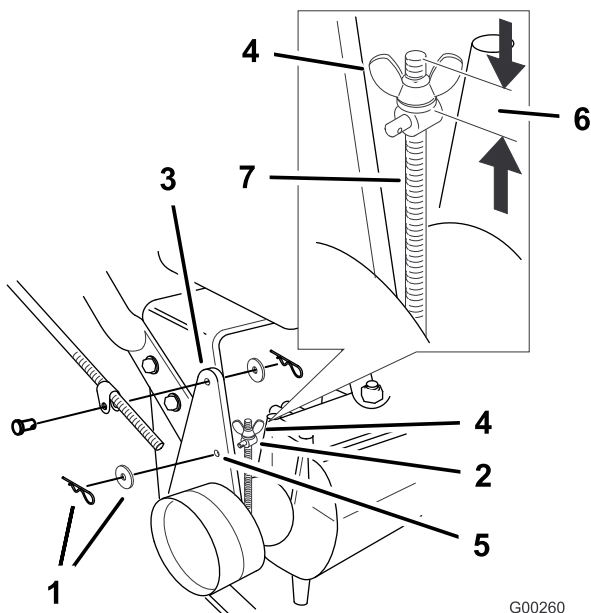

Figure 41
Note: For the initial adjustment, adjust the wing nut until it is 1-1/4 inches from the top of the rod (Figure 41).
5. To adjust the brake, remove the hair pin cotter and washer from the brake lever and trunnion (Figure 41).
8. Install the trunnion into hole **F** (Figure 41). Tighten the wing nut.
9. Secure trunnion to brake lever with washer and hair pin cotter (Figure 41).